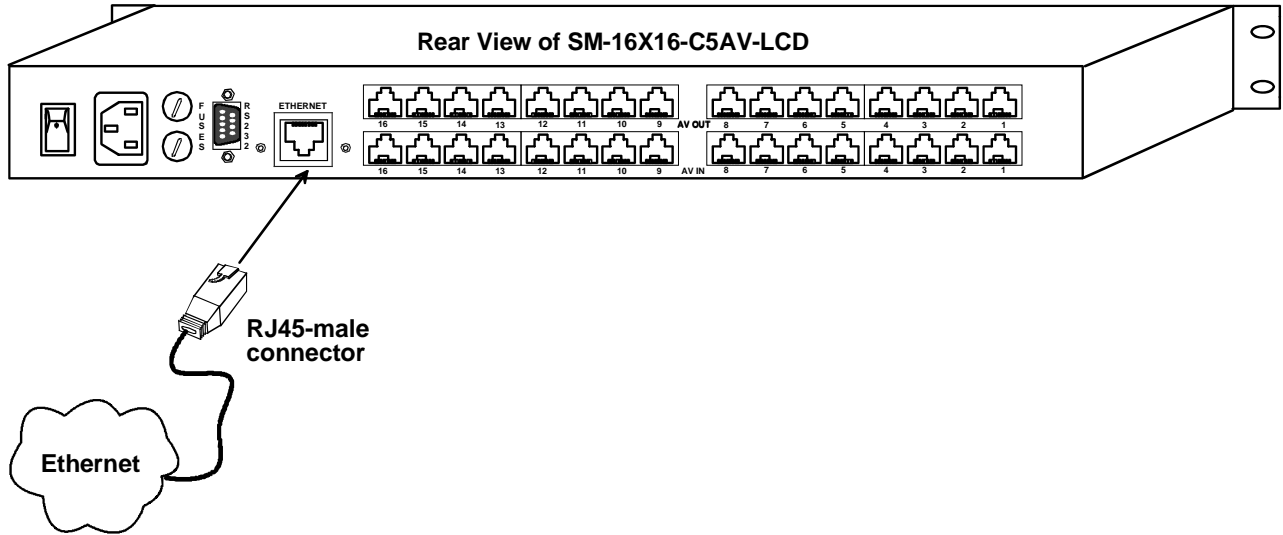

Figure 8- Connect VEEMUX to LAN
6. To use the WEB Interface (page 20) , connect a CAT5 cable between the Local Network and the RJ45 connector on the VEEMUX labeled ETHERNET. (See Fig. 8) This cable should be wired straight through between two RJ45 connectors (pin 1 to pin 1, etc.)